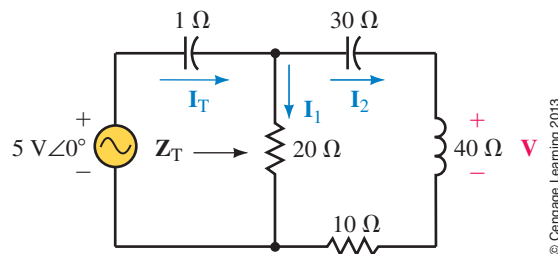

FIGURE 18-116
48. Consider the circuit of Figure 18-116.